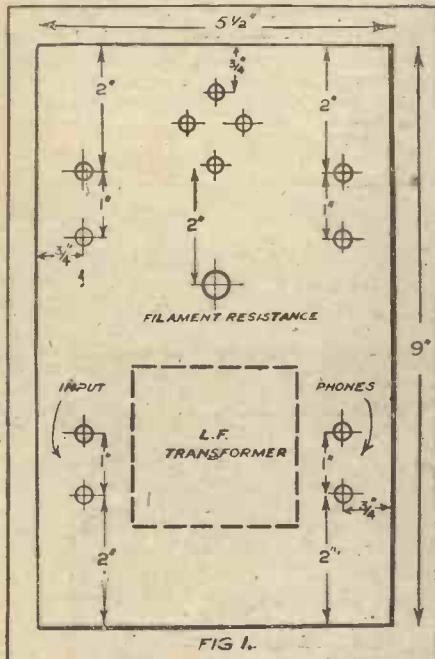

FIG. 1.
As will be seen from Fig. 1 and the photographs the low-frequency unit is not large, and in fact the case shown in the photos is too deep for the instrument—it could be made much shallower.
After using the No. 0 cloth, the No. double nought (00) should be used, when the panel will show quite a nice matt surface. Having trimmed up the edges and corners the panel is ready for drilling according to the plan in Fig. 1. For all the terminals 4 B.A. clearance drills are usually suitable, but this